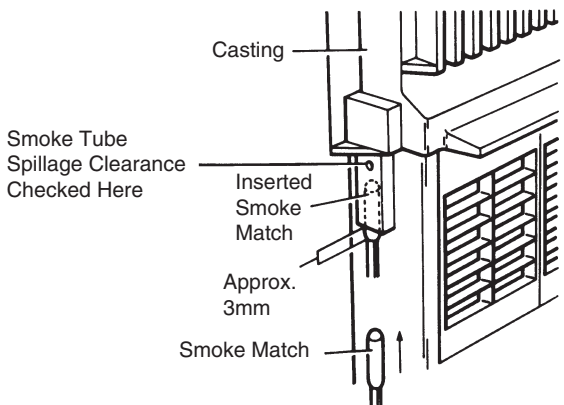

Fig.6
- After running for 5 minutes take a lighted smoke match and insert it into the smoke tube at the left hand side of the fire leaving 3mm of the match below the tube (Fig.6). No smoke emerging from the side hole indicates clearance.